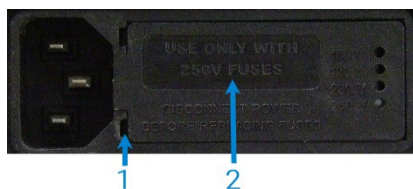

Figure 89. Fuse cover
- 2 Remove the fuse holder, located to the right of the mains input connection as shown in Figure 89 below.
- 3 Place the tip of a flat head screw driver into the slot (1).